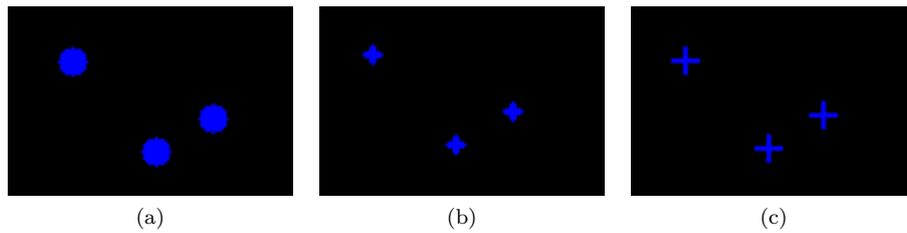

Figure 6.11: Available shapes to burn (all at Size=6, Thickness=2): (a) Circle (b) Cross (c)LineCross
- **Shape Type:** The shape to draw, either Circle, Cross or LineCross. See Figure 6.11 for a representation of the different shapes.